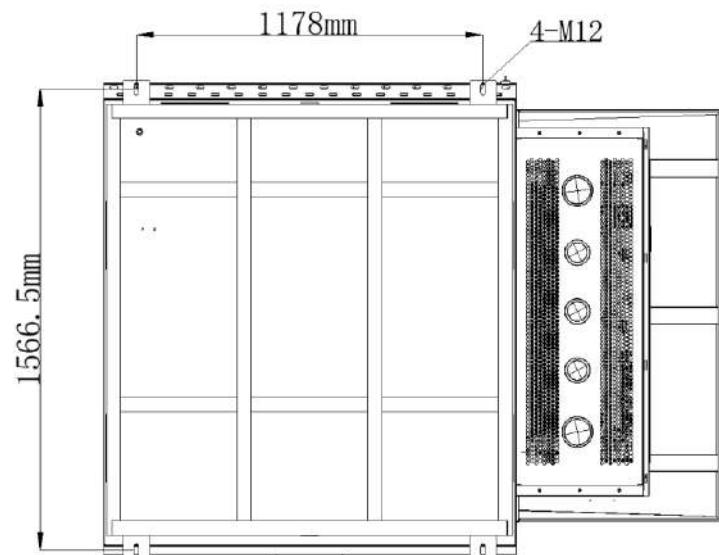

Figure 5-4 Fixed schematic diagram
1. As shown in Figure 5-4, each cabinet is provided with 4 fixing points on 4 feet.